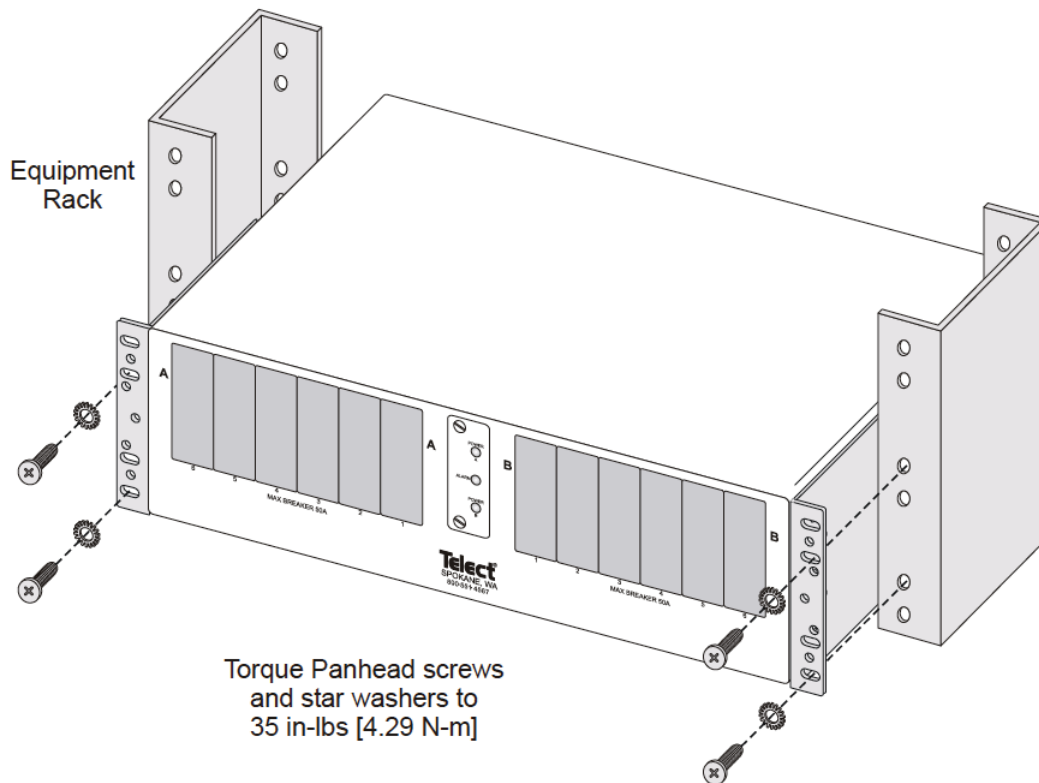

Figure 3 - Rack Mounting
2. Locate an unused rack position and mount the panel using at least two sets of fasteners (screws and star washers provided) per side, as shown in Figure 3. (Mount the panel as high as possible on the rack.)